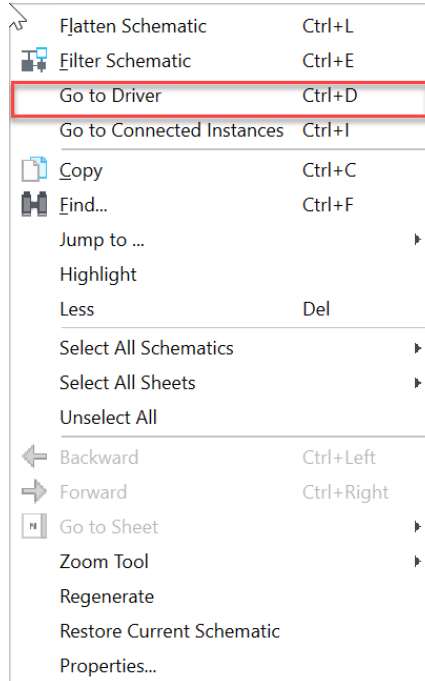

Figure 3.20. Go to Driver Option
- Selecting **Go to Driver** option, shown in Figure 3.20, highlights the driver of the chosen net. This is useful to debug multi-driven nets, and to quickly identify and examine the source or driving element of the selected net.